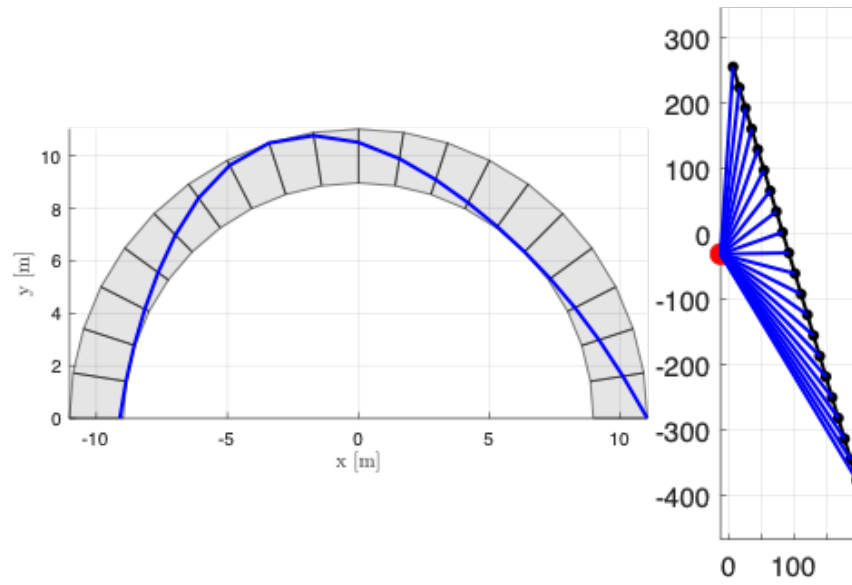

Figure 1: First plot output: Limit thrust line & voussoir edges alongside its corresponding force polygon
4. Plot the the results as given in Figures 1 & 2